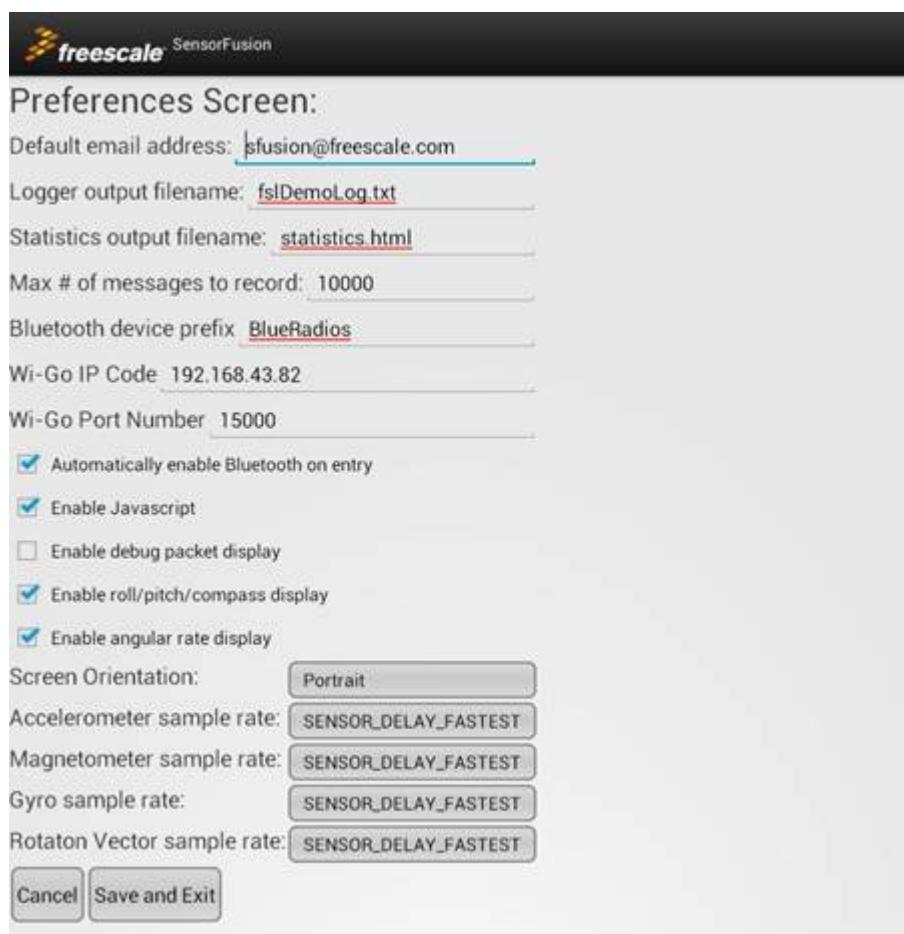

Figure 17. Sensor Fusion preferences window
3. Open the **Preferences Screen**, see Figure 17 and check the **Automatically enable Bluetooth** on entry checkbox. Click **Save and Exit** option and then exit the application.